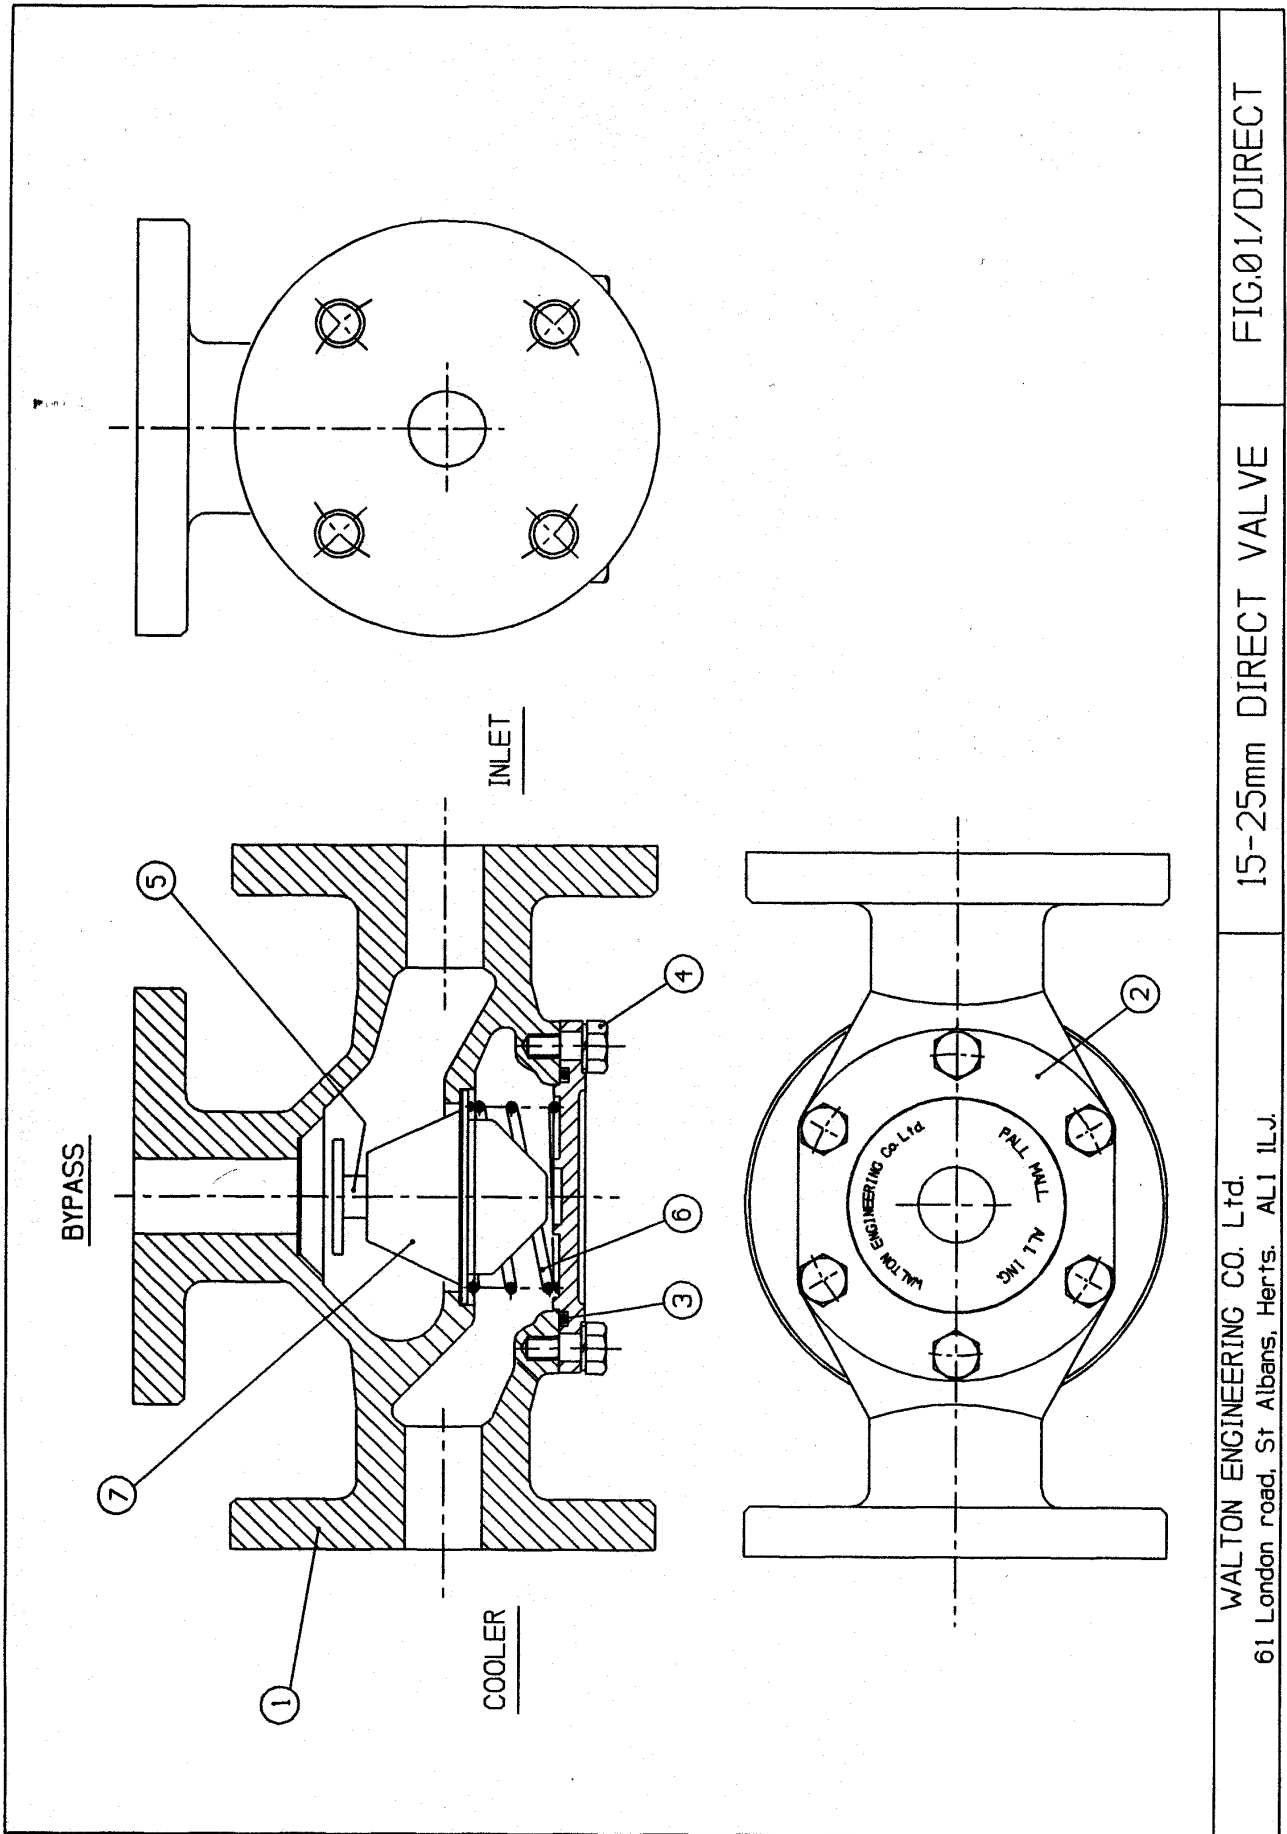
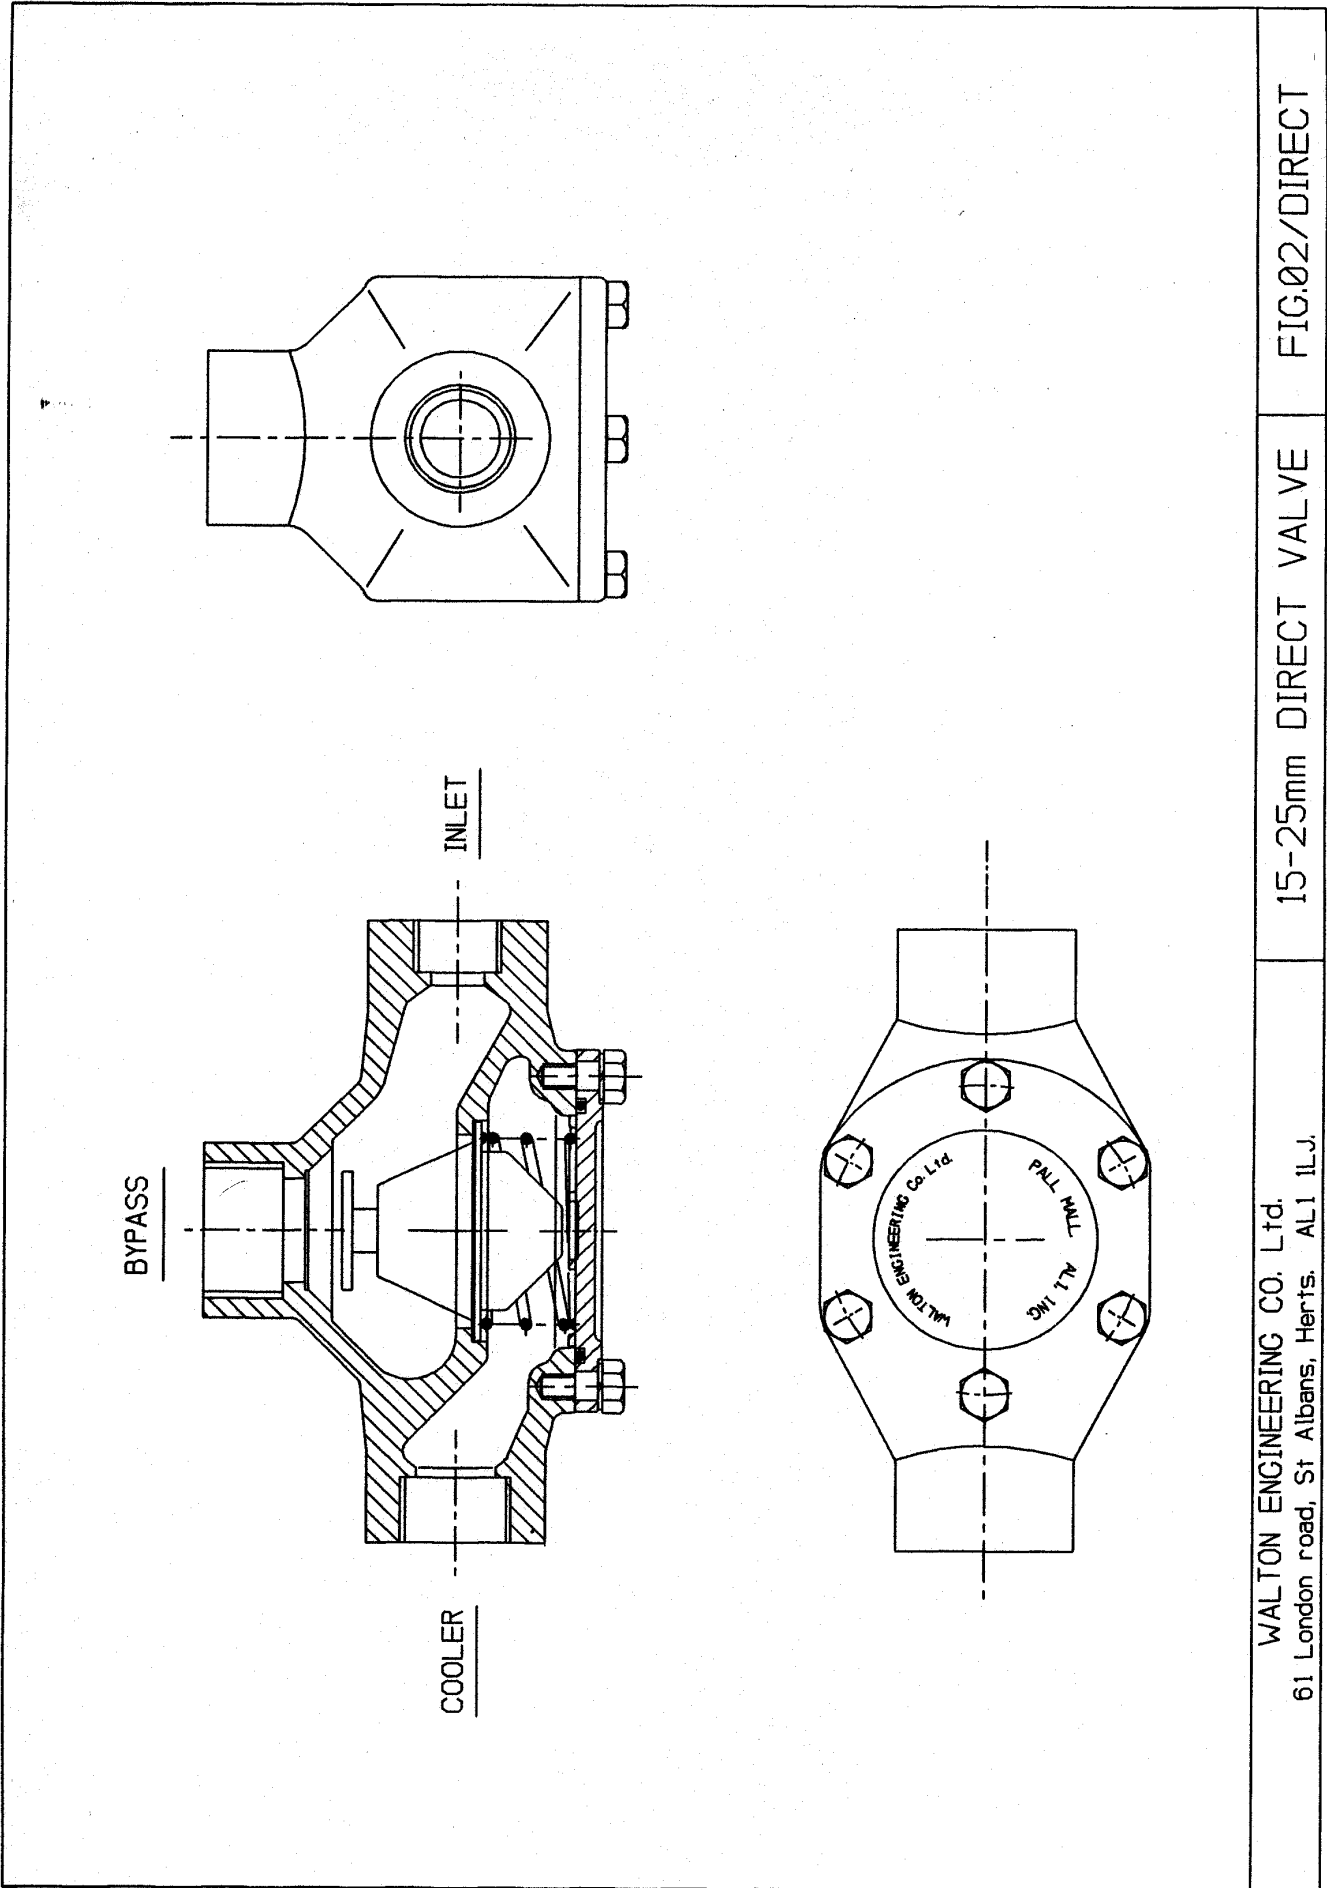

FIG.01/DIRECT
FIG.02/DIRECT
This 3-way valve may be used for very low flow rates in either mixing or diverting applications. The body can be supplied flanged (Fig.01/DIRECT) or with threaded ports (Fig.02/DIRECT).
The valve is operated by a temperature sensitive element assembly (wax-filled). Figs. 01/DIRECT and 02/DIRECT show cross-sectional views of the valve assembly in the "cold" position. The element assembly (7) is held in place by a retaining spring (6).